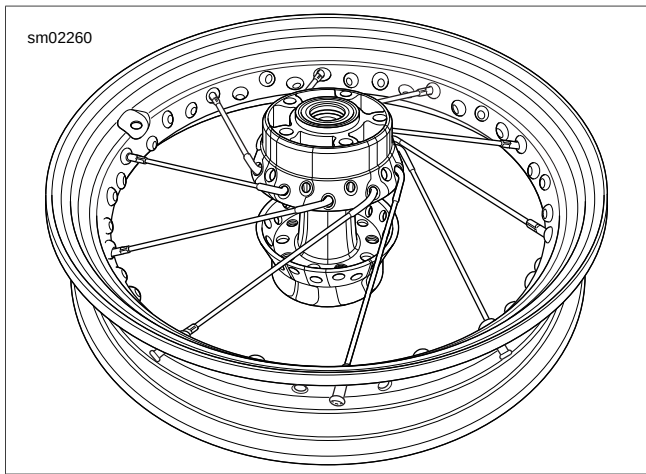

Figure 2-24. Brake Side Up: Bottom Row of Spokes Laced
- See Figure 2-24. Install remaining lower row spokes, one in every fourth hole.